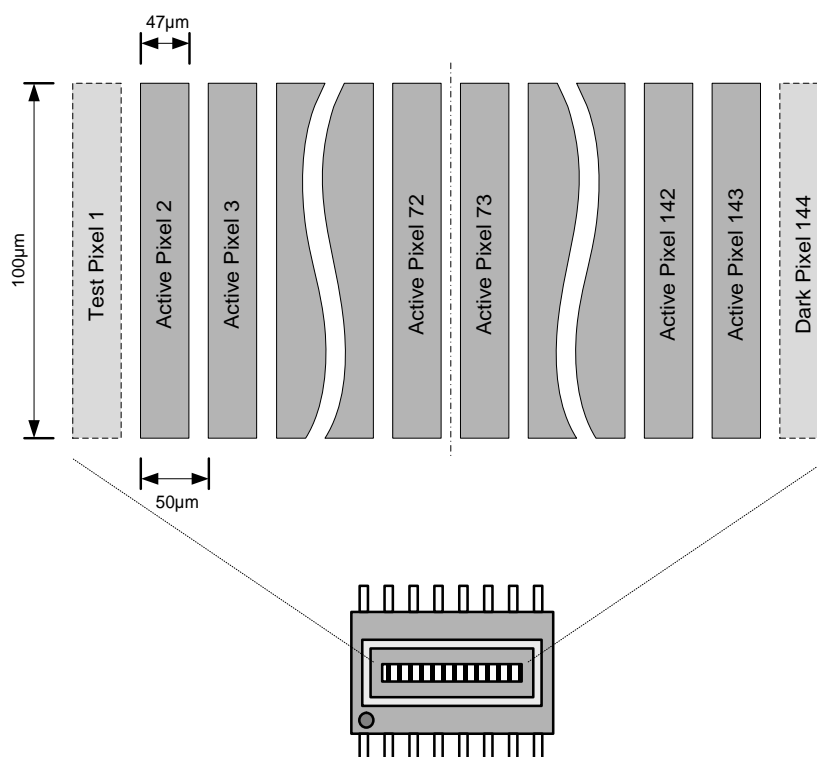

Figure 1: Pixel geometry
The sensor consists of a linear array of 1+142+1 photodiodes. The pixel geometry is shown in Figure 1. Each individual pixel measures 100µm (H) by 47µm (W) with a 50µm pixel-to-pixel pitch. There are 142 active pixels which can be used to measure the light intensity. One extra pixel, each with a special functionality, is added to both ends of the linear array.